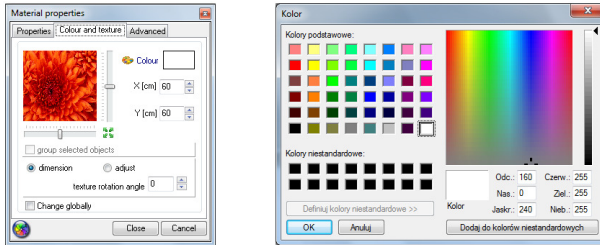

Fig. 340 – Colour and texture tab and the Colour dialog box with a colour palette
- change the colour of the texture – any colour can be chosen (Fig. 340);
- to change the colour click the **Colour**  button and indicate the wanted shade on the palette (Fig. 340);